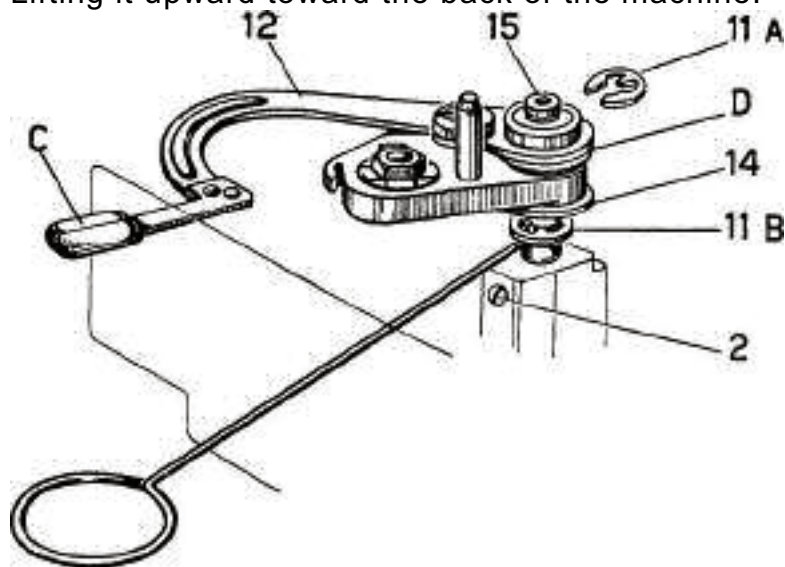

Fig. 47
Remove retaining ring " 11B " which is slipped over the pin " 15 ". To simplify this operation, use a special pull rod (see Fig. 47).
Grip the retaining ring " 11B " with a pair of tweezers and slip it into the groove of pin " 15 ". See that the washer " 14 " stays *above* the retaining ring " 11 B " (Fig. 47).
- l) Take the needle bar positioning lever » " 12 " (Figs. 46 and 47) and introduce it between the upper shaft and the rear wall of the machine in such a manner that its handle " C " passes below the upper shaft and through the front opening of the machine (Fig. 47). The lever bearing " D " of this same lever assembly " 12 " must be slipped over the pin " 15 ".